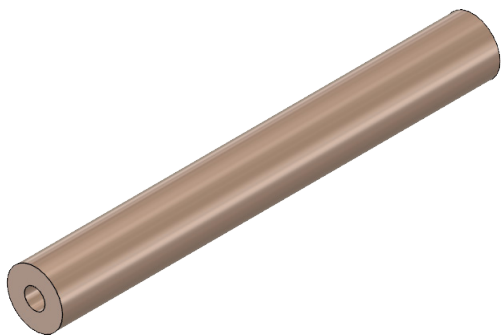

Figure 1: Gas line
2. Disconnect the gas line (see Figure 1) from the analytical instrument.